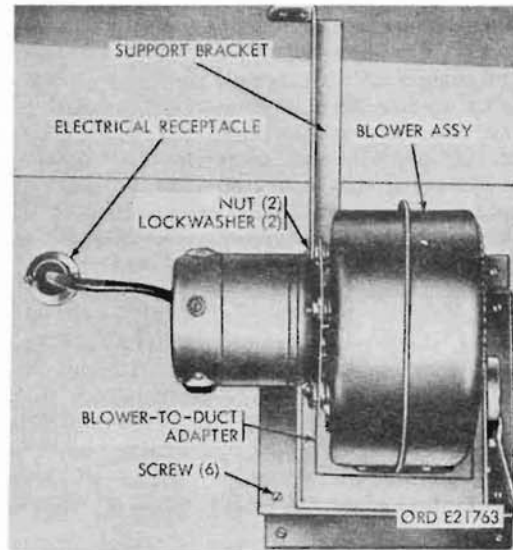
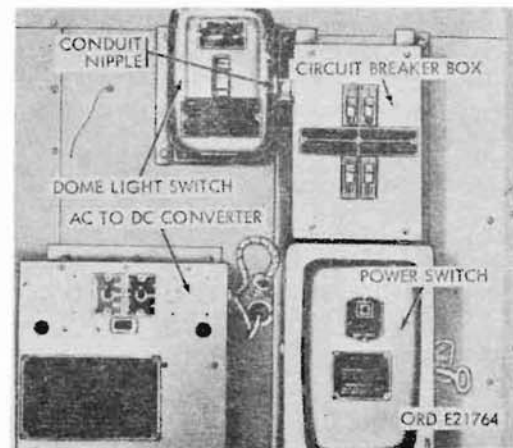
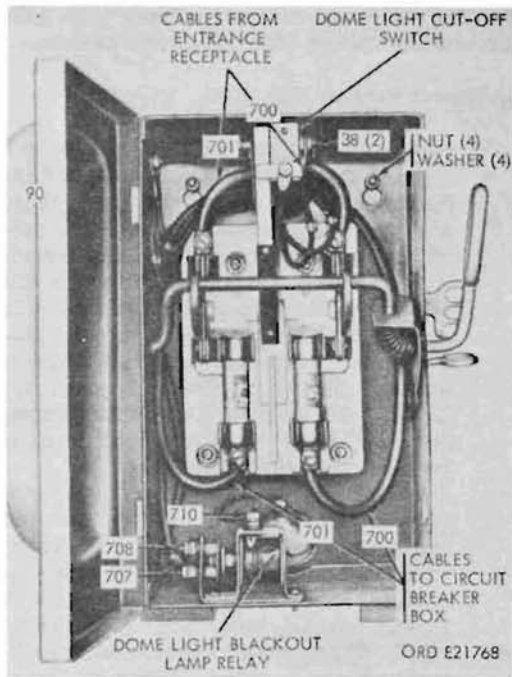
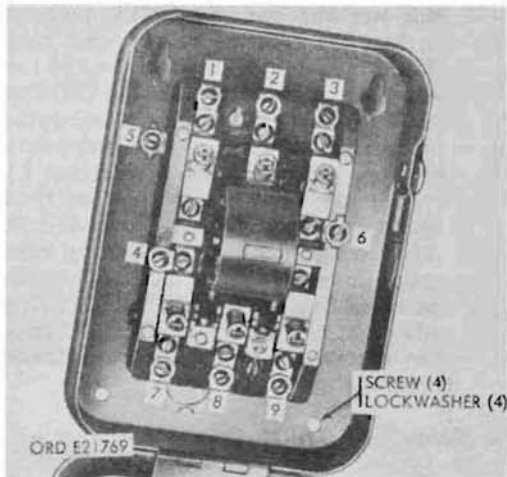

Figure 328. Exhaust blower
Figure 329. AC-to-DC converter, dome-light switch, power switch, and circuit breaker box
Figure 333. Power switch assembly
Figure 334. Dome-light switch
a. Description. The van bodies are equipped with two 24-volt dc power circuits and one 115-volt ac power circuit (par. 291). An exhaust blower (fig. 328) is located on the body inside the rear panel to the left side of the rear doors. An ac-to-dc converter (fig. 329) is mounted directly on the body inside the front panel. The converter changes the 115-volt ac power to 24-volt dc power for the exhaust blower. Switches in the converter control the source voltage to the converter and adjust the output voltage to allow variation of the blower speed. A built-in circuit breaker in the converter protects the blower motor circuit. The power switch and circuit breaker box are mounted on brackets secured to the body inside the front panel. The power switch box contains a 115-volt switch section for control of 115-volt power in the van body, dome-light cutoff switch section for 24-volt power control to 24-volt dome lights, and blackout dome-light relay for control of the 115-volt blackout dome lights. The relay is actuated by the 115-volt rear door blackout
switch. The relay contacts are normally closed. The circuit breaker box contains four circuit breakers used only for 115-volt circuits. The dome-light switch is mounted on a bracket above the converter. A conduit nipple connects the switch box to the circuit breaker box. A manually operated switch (fig. 329) selects the operating conditions for 115-volt
b. Power Switch (Fig. 333).
- (1) Removal. Disconnect external power cables from two entrance receptacles. Disconnect electrical cables from power switch section, dome-light cutoff switch section, and blackout dome-light relay in switch box. Unscrew and remove bushing and locknut on end of nipple extending into switch box. Remove four screws and lockwashers holding the box to circuit breaker box (fig. 329) and power switch mounting left and right brackets, and remove switch box from brackets.
- (2) Installation. Install switch box on mounting brackets with four lockwashers and hex-head screws after inserting electrical leads and end of 1-inch nipple into box. Secure the nipple to box with 1-inch conduit locknut and end bushing. Refer to figure 333 for a guide to wire locations. Connect cable (90) from body ground connection and converter dc receptacle to ground terminal on the power switch box. Connect cable (700) from 115-volt entrance receptacle to the terminal on the power switch blade right-hand contact. Connect cable (701) from 115-volt entrance receptacle to left-hand contact. Connect cable (700) from circuit breaker box (fig. 329) to terminal on fuse right-hand clip. Connect cable (701) from circuit breaker box to fuse left-hand clip. Connect cable (38) from dome-light switch to terminal on switch blade base of dome-light cutoff switch section. Connect cable (38) from 24-volt dome light to terminal on blade contact of cutoff switch. Connect cable (710) to top terminal on blackout relay coil. Connect cable (708) to terminal on one relay contact and cable (707) to other relay contact terminal. Connect two external power cables to entrance receptacles.
293. Dome-light Switch (Fig. 334)
switch box. Unscrew and remove bushing and conduit locknut from end of nipple extending into box (fig. 329). Remove four screws and lockwashers holding box on mounting bracket (fig. 334) and remove box.
299. Exhaust Blower (Fig. 328)